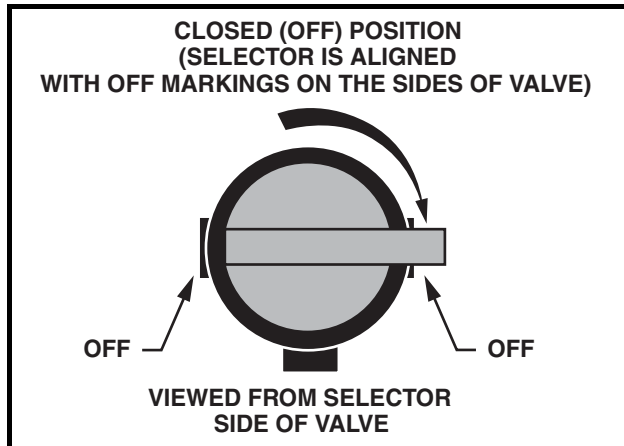

Figure 16 Fuel Shut-off Valve – Closed Position
- Gasoline vehicles only: Turn the fuel shut-off valve to the closed (OFF) position (Figure 16, Page 27).
- Turn the fuel shut-off valve to the closed (OFF) position (Figure 16).
- 2.1. Place the Forward/Reverse handle in the NEUTRAL position and the neutral lockout cam in the MAINTENANCE position. Turn the fuel shut-off valve to the closed (OFF) position (**Figure 16**) and run the engine until fuel remaining in the carburetor and fuel lines is depleted and the engine stalls. Return the neutral lockout cam to the OPERATE position.
- Turn the fuel shut-off valve to the closed (OFF) position (Figure 16, Page 27).